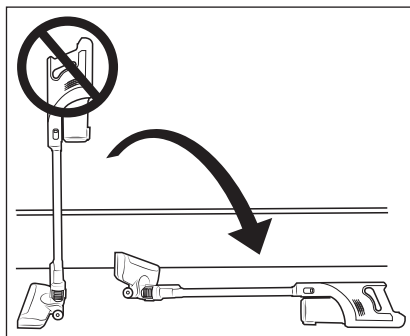

Fig. 9
- Do not try to place the vacuum cleaner upright when you want to put it down or take it out of your hand in the meantime. To do this, place the vacuum cleaner in the wall bracket **18** or lay it on the floor (see Fig. 9 and 10). Due to its high centre of gravity, the vacuum cleaner may otherwise tip over and be damaged and possibly damage other objects when tipping over.